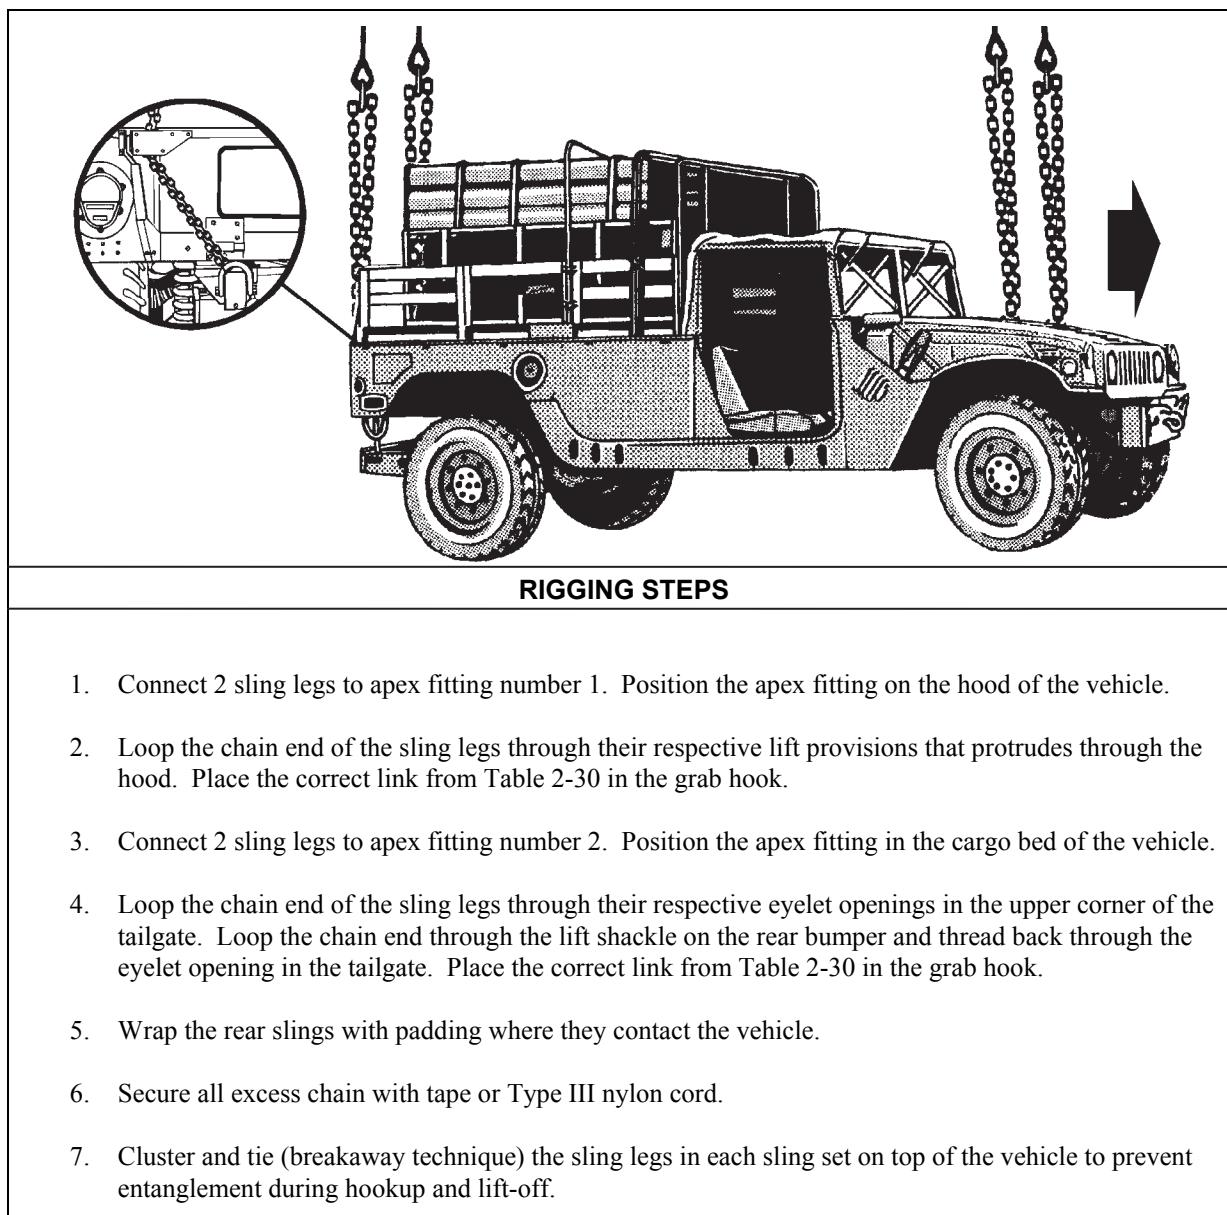

Figure 2-29. M998 with Two MRC-127 Stacks
- **Rigging.** Rig the load according to the steps in Figure 2-29.